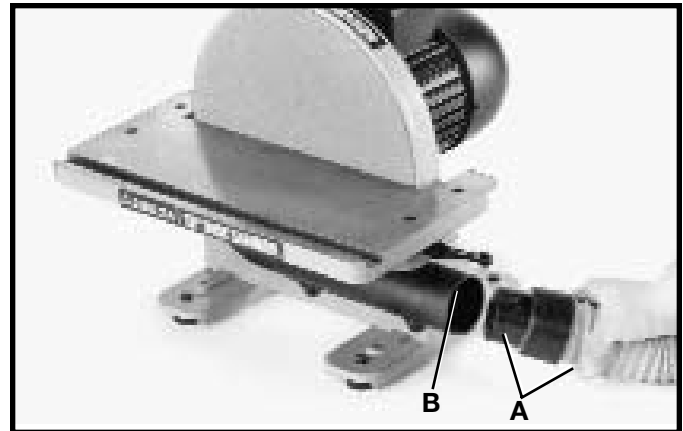

Fig. 3
The 12" Disc Sander has an efficient, integral fan which provides excellent dust collection. We suggest that a dust collector of some kind be hooked up to the machine. If dust collection is not available, insert one end of the supplied dust hose (A) Fig. 3, into the dust port (B) of the sander as shown and drape dust hose (A) down into a garbage can. Dust port (B) measures 2-1/4" I.D.